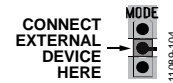

Figure 8. MODE Pin Direct Connection
- Alternatively, connect a voltage between VIN and GND to the center pin of the MODE test bus for independent control of the MODE pin voltage (see Figure 8).